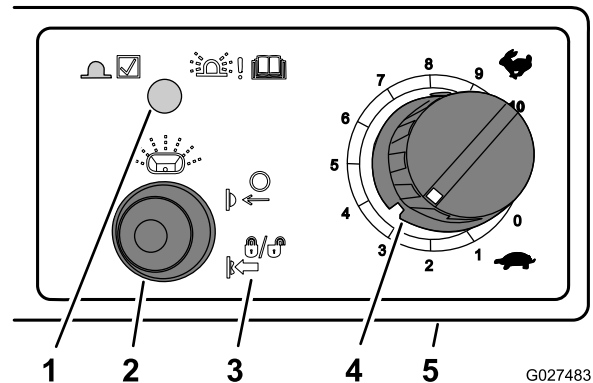

Figure 32
- Set the impeller-speed control to appropriate broadcast rate and then press the impeller On/Off switch to the ON position (Figure 32).
- To lock the impeller speed control, press and hold the impeller On/Off switch for 5 seconds (Figure 32).